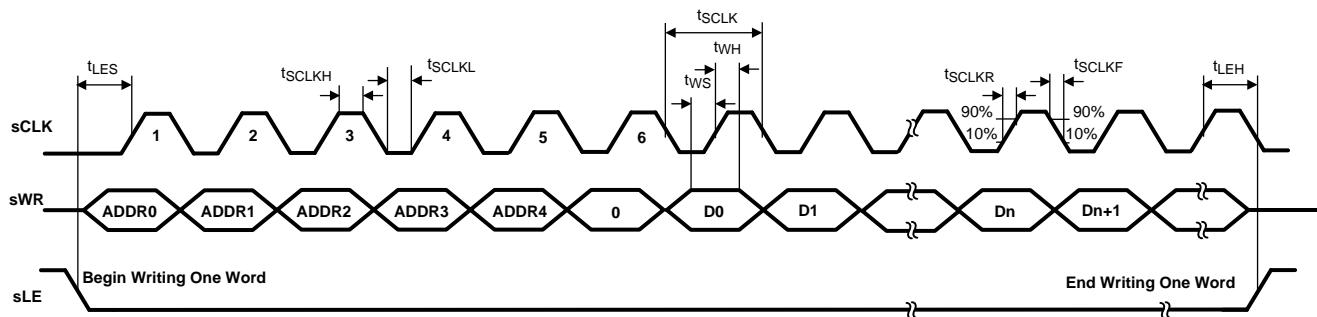
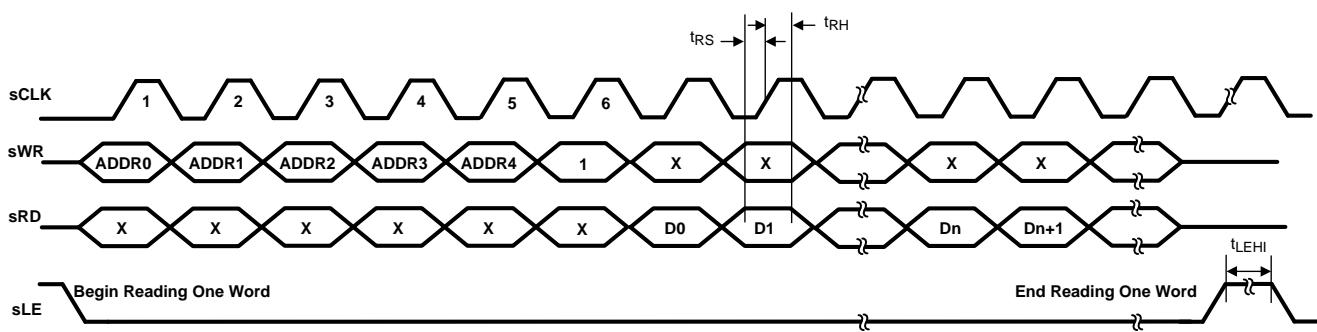

Figure 3. 4-Wire Serial Interface WRITE Timing
Figure 4. 4-Wire Serial Interface READ Timing
The pulse patterns and delay settings can be programmed into and read out from the individual channel controls via a four-wire serial interface. When the Latch Enable signal (sLE) is low, the targeted on-chip registers can be written through the serial data Write pin (sWR) at the positive clock edge (sCLK). In the same way, they can also be read out through the serial data Read pin (sRD). The writing and reading operations have the same timing requirements, which are shown in Figure 3 and Figure 4. The serial data stream starts with a 6-bit address, in which the first 5-bits identify the mode of updating which is interpreted by the Finite State Machine (FSM), and the sixth bit of the address indicates the 4-wire serial operation, either "WRITE" (0) or "READ" (1). The address is followed by the data word, whose length can vary from 8 bits to 64 bits. The data stream starts with the LSB and ends with the MSB. The first 5-bit address indicates which of the 27 registers is being accessed. The register map is shown in Table 3. In each 4-wire serial operation, only one register can be written to or read from at a time. TX\_EN must be inactive during 4-wire serial interface operation.